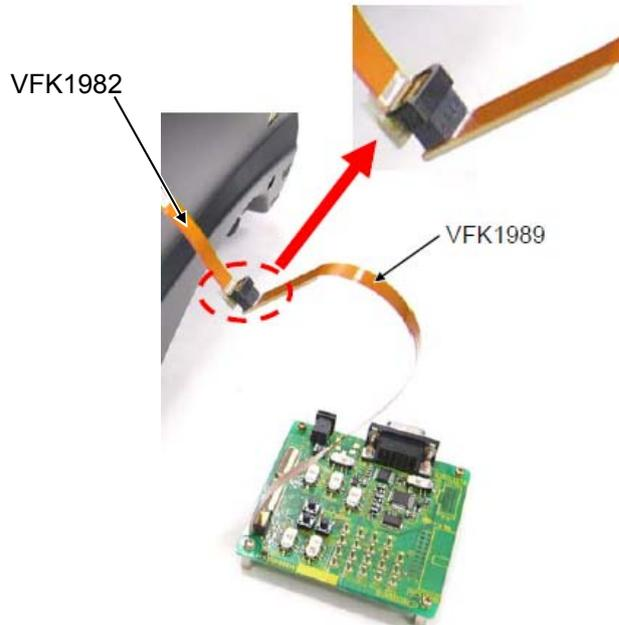

Figure 4
5. Connect the VFK1989 (Extension Cable) to VFK1982 (Extension Cable) as shown in figure 4.